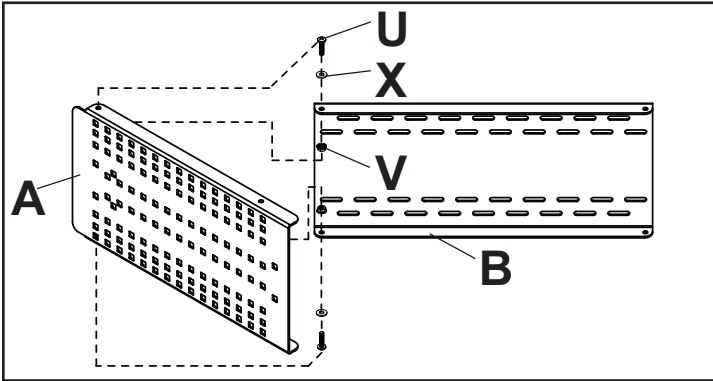
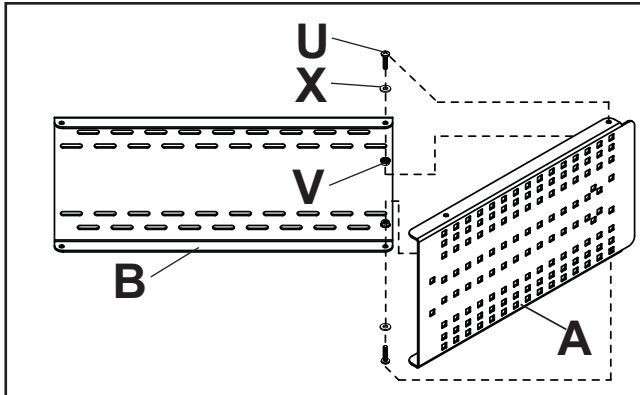

fig. 2.1
fig. 2.3
- 2** Attach interface plate (A) to wall plate (B) using one 1/4-20 x 1" round phillips head screw (U), 1/4" flat washer (X) and 1/4-20 flanged serrated locknut (V) as shown in fig 2.1 or 2.2 for interior corners or fig 2.3 and 2.4 for exterior corners. Repeat for opposite interface plate.
**NOTE:** Be sure top flange of interface plate (A) rests on top flange of wall plate (B).